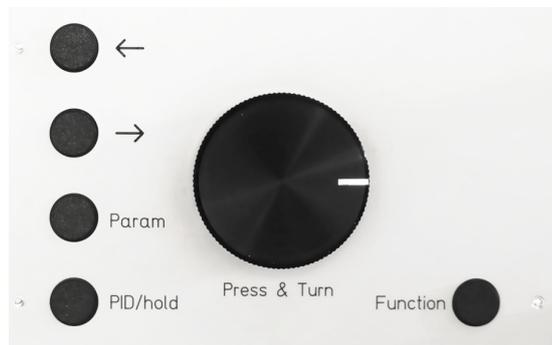

Fig. 2a: Control keys and steering wheel on front plate
The following picture (fig. 2a) displays a block diagram of the internal structure, illustrating the functional principle. A digital oscillator provides a sine wave of freely adjustable and precise frequency. An inverter circuit creates the inverted signal, or in other words a 180° shift. These two signals are fed into power amplifiers of adjusted amplification factor, followed by a resonant circuit. The latter steps up the obtainable voltage (about 20Vpp out of the power amplifier, PA) roughly by a factor of 50 to 100. Thus, voltages of a few hundred volts to about 2kV (peak-peak values) are created, suited for Paul Ion Traps or Quadrupole Structures. For balancing possible asymmetries, trim capacitors are provided (rear side) to balance different capacitive output loads, thus obtaining equal output levels on both outputs. The device features an offset DC input, by which the output voltages can be shifted DC-related. Voltages being applied to these input lines are added to the AC signal (RF) of the outputs (this feature is not shown in fig. 2a/b). This also applies for multiple DC offset, e.g. for linear quadrupole or octupole structures.